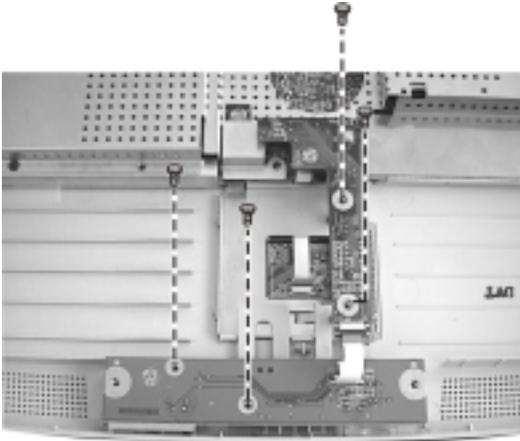

Figure 5-25
8. Remove four screws to take the recharge board apart. (figure 5-25)